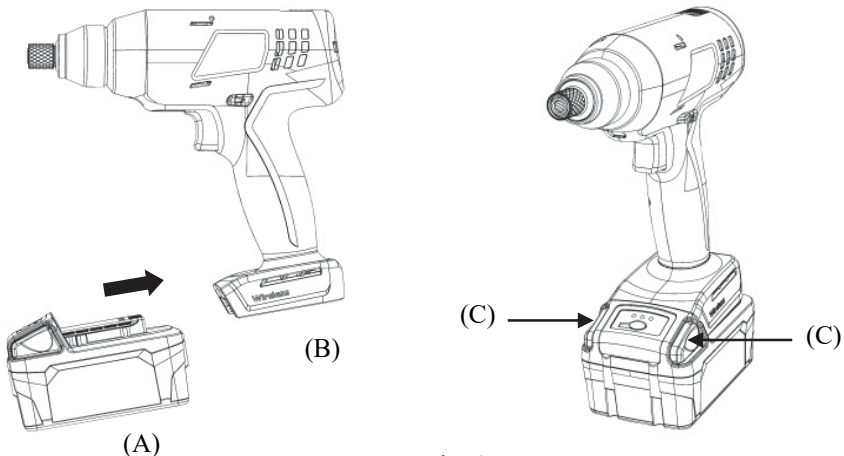

Fig. 1
Install battery pack: Push battery pack (A) onto tool (B) to locked-place. (see Fig.1)
Remove battery pack: Depress the battery latches (C) and pull battery pack (A) out of tool (B). (see Fig.1)